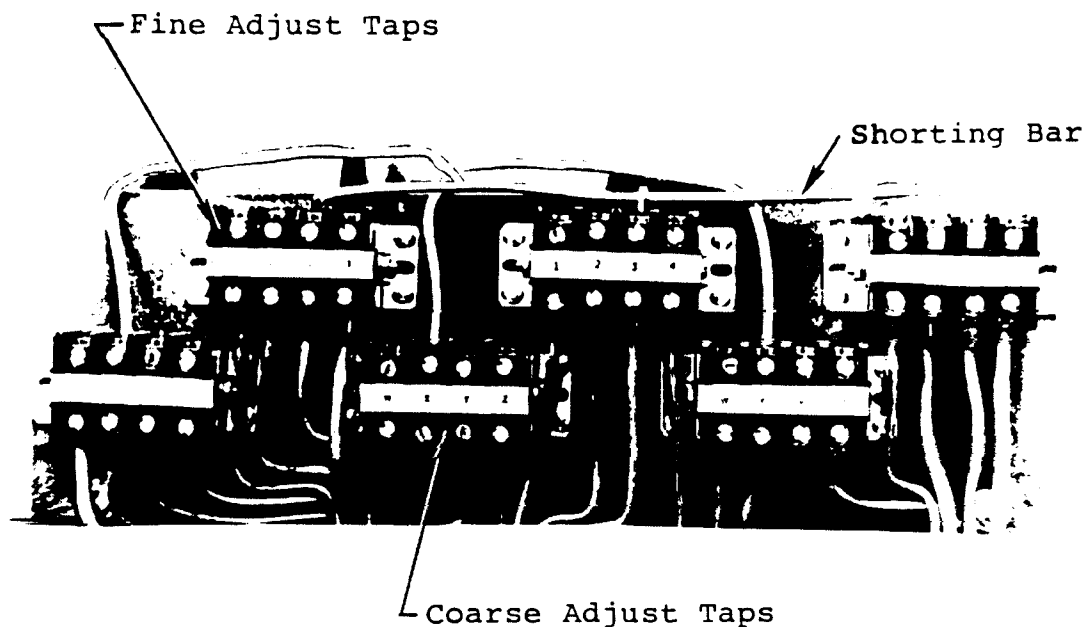

Figure 4-10. XPS-45 Tap Description
- c. Coarse current changes are effected by moving each of the three wires to the appropriate letter on the "WXYZ" terminal taps. Note that "W" is the lowest current tap and "Z" is the maximum (see Figure 4-10).